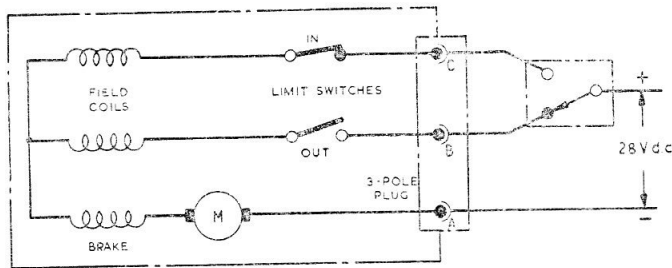

Fig. 3. Typical circuit diagram
3. Internal electrical wiring is brought out to a 3-pole plug mounted on the inclined inlet of the housing. A typical circuit diagram is given in *fig. 3*.